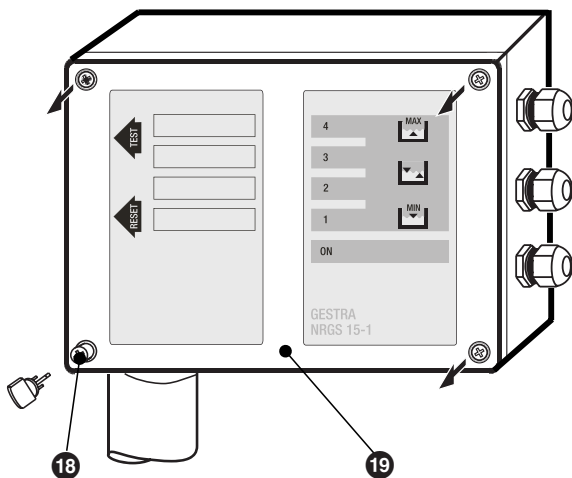

Fig. 3
2. Use a waterproof marker to enter the established function for each electrode tip in the labelling boxes on the lid (see Fig. 3).